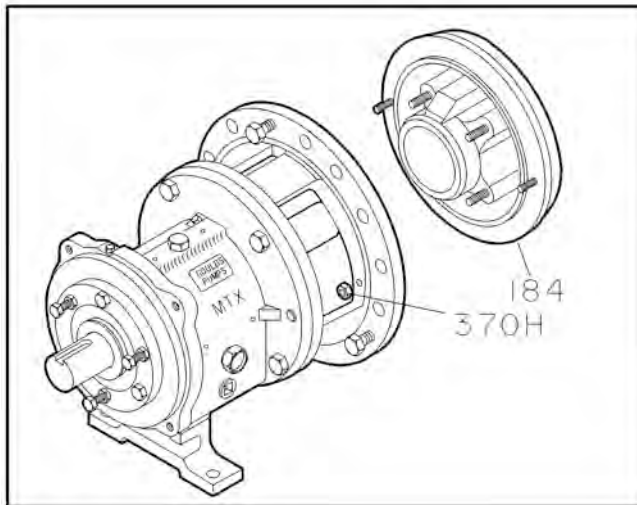

Figure 68:
30. Install the impeller (101) with a new O-ring (412A). Put the wrench and on the shaft. When the impeller makes firm contact with the sleeve, raise the shaft wrench (counterclockwise when viewed from the impeller end of the shaft) and slam it down (clockwise when viewed from the impeller end of the shaft). A few sharp raps will tighten the impeller properly (Fig. 68).